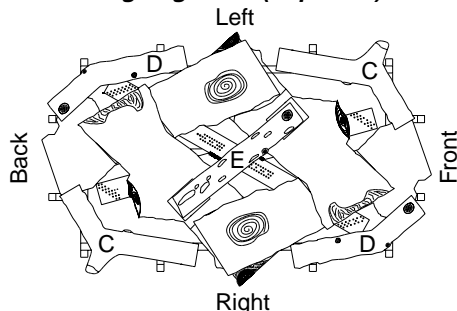

Figure 46 - Installing Twigs "C, D, E" (Top View)
10. Take twigs "C" (shaped like a "Y") and place them as shown in Figure 46.
11. Take twigs "D" (bent twig) and place them as shown in Figure 46.
12. Place twig "E" across the top of logs "B" as shown in Figure 46.
13. When finished installing the logs, close the glass doors while making certain that the safety door switch is fully depressed by the door frame before securing the four (4) spring loaded latches.